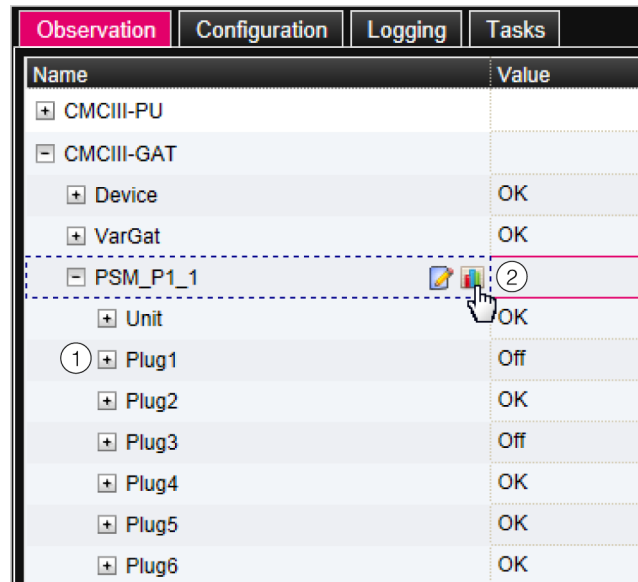

Fig. 13: Tree view
If, after selecting the "PSM_P1_1" level, the lower-level "Unit", "Plug 1", etc. entries are displayed (fig. 13, item 1), switch to the graphical display as follows:
- Click the coloured "graph" symbol after the "PSM_P1_1" entry, which resembles a stylised bar graph (fig. 13, item 2).
The display changes to the tree view (fig. 13) and you can access the specific individual settings.